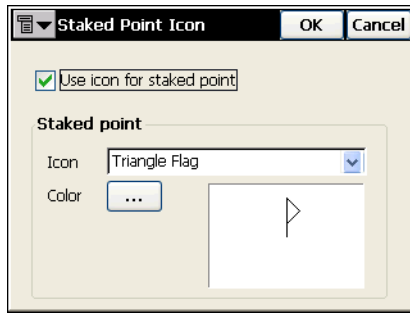

Figure 3-56. Staked Point Icon
12. To display an icon for the staked point on the map, select the *Display* option from the menu in the upper left corner of the *Stakeout Parameters* screen. In the *Staked Point Icon* screen, select the desired parameters for the icon (Figure 3-56 on page 3-39).